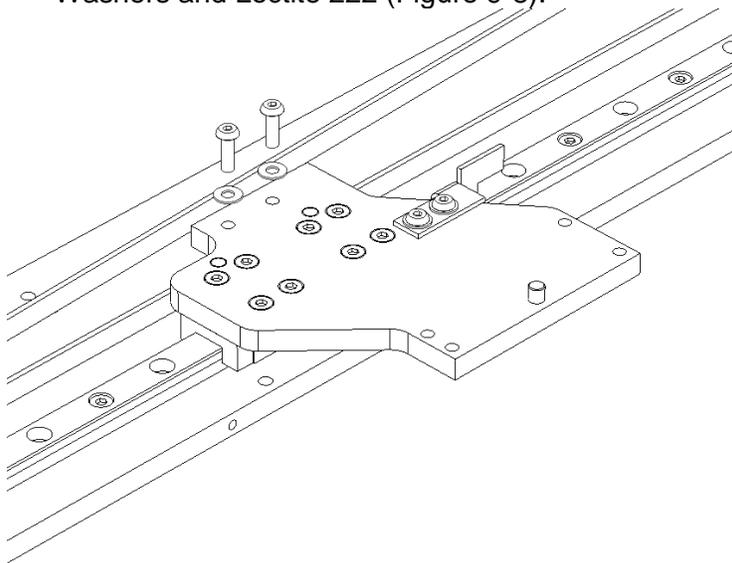

Figure 9-8: Affixing XY Attachment Bracket
3. Slide the XY Attachment Plate over the X belt and affix the X Belt Attachment Bracket to the XY attachment plate using two M3x10 Button Head Screws, two M3 Washers and Loctite 222 (Figure 9-8).